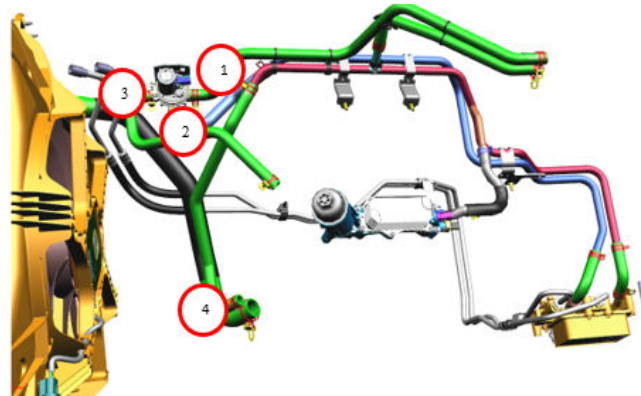

Fig. 1
6. Backflush Auxiliary Heat Exchangers (Heater Core, Transmission Oil Heater, Engine Oil Cooler) by disconnecting hoses at the Three-Way Valve and the water pump Fig. 1.